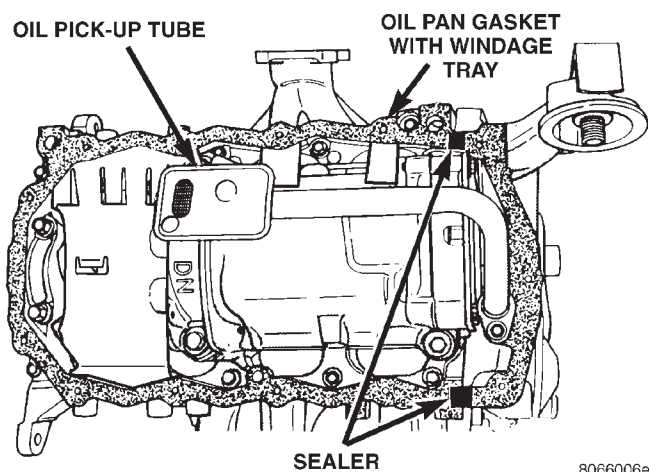

Fig. 60 Oil Pan Gasket Installation
- (2) Install the oil pan gasket to the block (Fig. 60).
- (3) Install pan and tighten the screws to 12 N·m (105 in. lbs.).